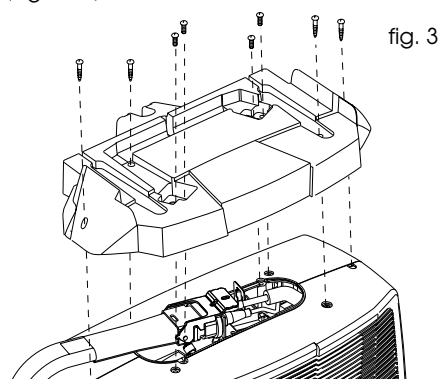

fig. 3
- 2) Remove the handle by unscrewing the 4 metric screws, then, to remove the cover, unscrew the remaining 4 self-threading screws (see Figure 3).